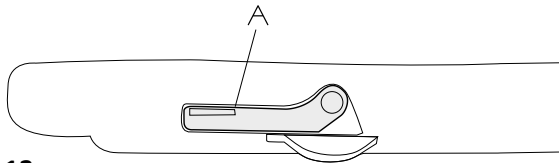
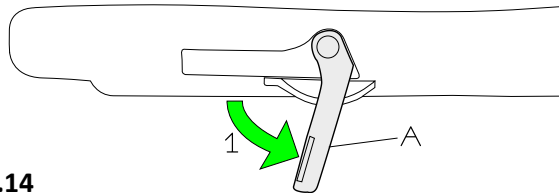

Figure 4.13
Figure 4.14
- Carefully push the brake lever (Fig 4.13, A), located on the edge of your seat, downwards (Fig 4.14, 1)